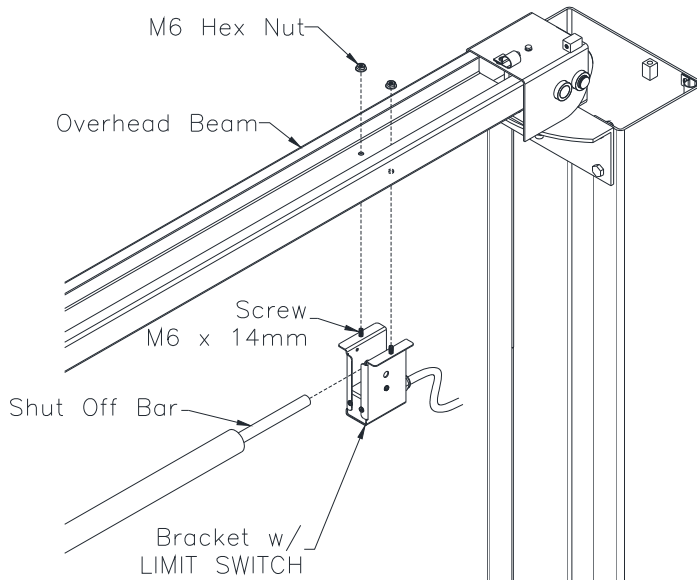

Fig 7a – Overhead Limit Switch Power Side
- 14) Install Overhead Limit Switch to the Overhead Beam on the Power Side of the lift. See **Fig 7a**.